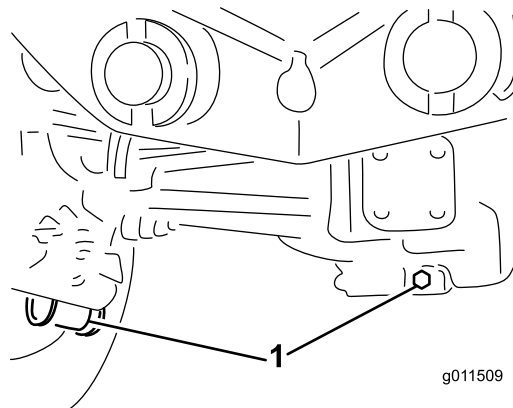

Figure 109
2. Clean the area around the 3 drain plugs; 1 on each end and 1 in the center (**Figure 109**).